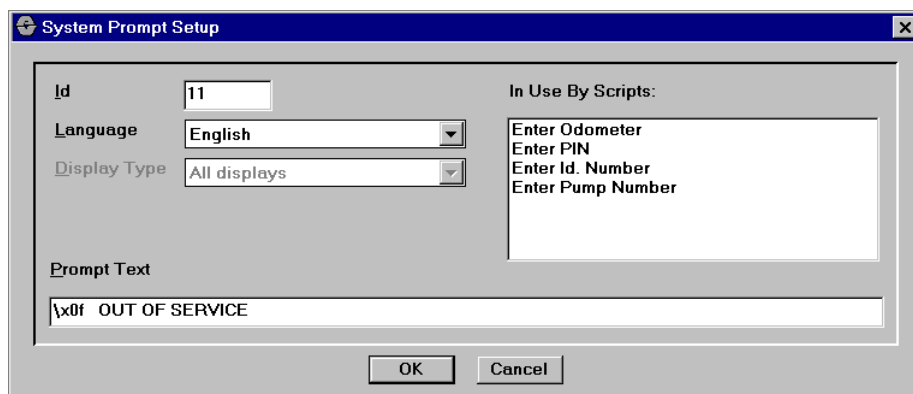

Figure 31: System Prompt Setup Window
Select **Site**, **Payment Terminals**, **Messages**, **Prompts**. Double-click a prompt in the list or click **New** for the System Prompt Setup dialog box (*Figure 31*).
2. Double-click a prompt in the list to open the System Prompt Setup dialog box (*Figure 31 on page 54*).